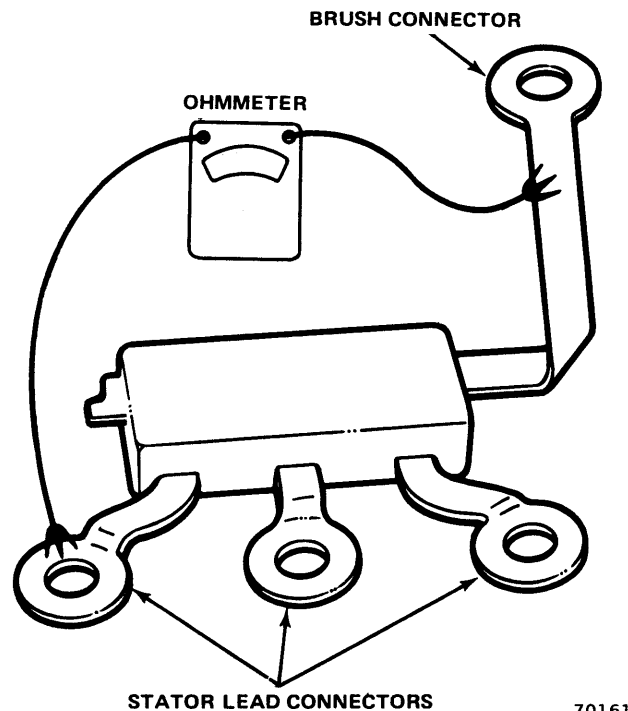

Fig. 3-32 Checking Diode Trio
- (1) Check diode trio after removing it from end frame assembly.
- (a) Connect an ohmmeter having a 1-1/2-volt cell to the single brush connector and one of the stator lead connectors (fig. 3-32). Observe reading on lowest range scale.
- (2) Replace the diode trio if any or all of the readings when reversing connections are the same. A good diode trio will give one high and one low reading.
- (3) Connect ohmmeter to each pair of three connectors. If any reading is zero, replace diode trio.